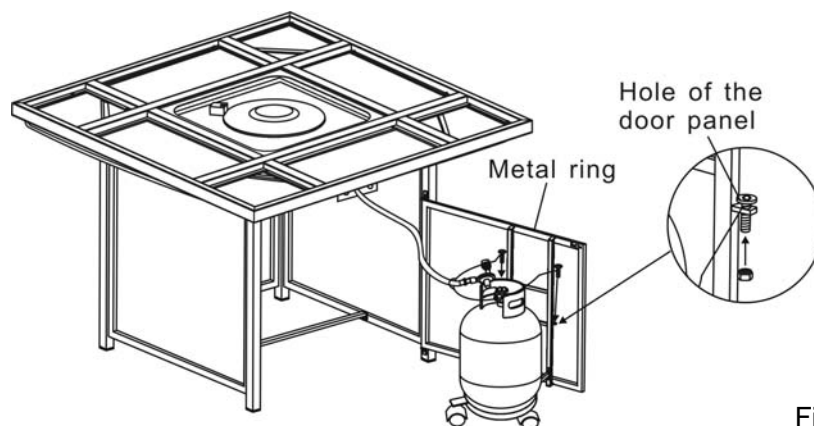
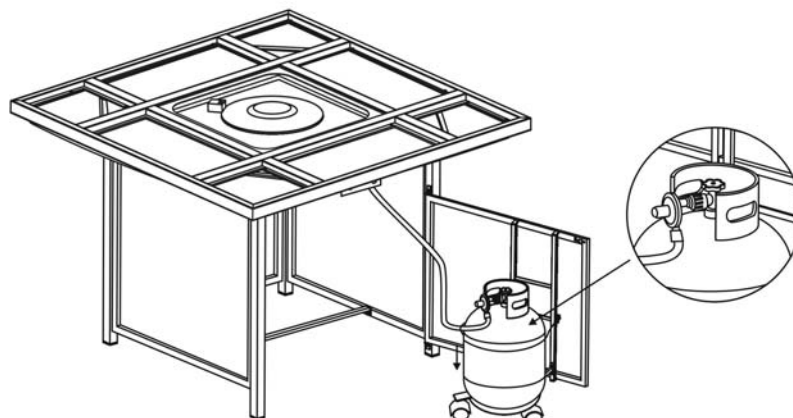

Figure 9
Figure 10
9. Attach the metal ring (as shown in Figure 9) pre-fitted with gas hose which is connected to the table top, into the hole of the door panel, then use hex bolt driver to screw 1/4"x5mm nut, the gas tank has fixed as shown in Figure 10. Connect the regulator as shown in Figure 10. Screw the black handle clock-wise to tighten. Turn the handle counterclockwise to remove. The hose must point down. Check that the valve is turned all the way clockwise to the "OFF" position.